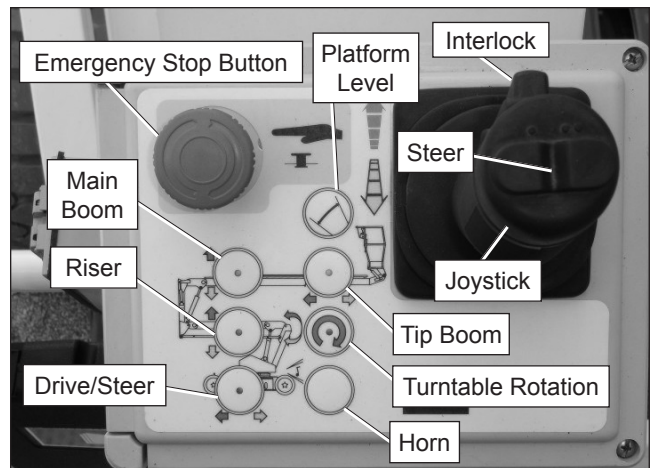

Figure 8.5 – Upper Controls
4. At the upper controls pull the emergency stop button outward (refer to Figure 8.5).
5. Check to see that the battery condition indicator displays a power reading at the upper controls (refer to Figure 8.5)